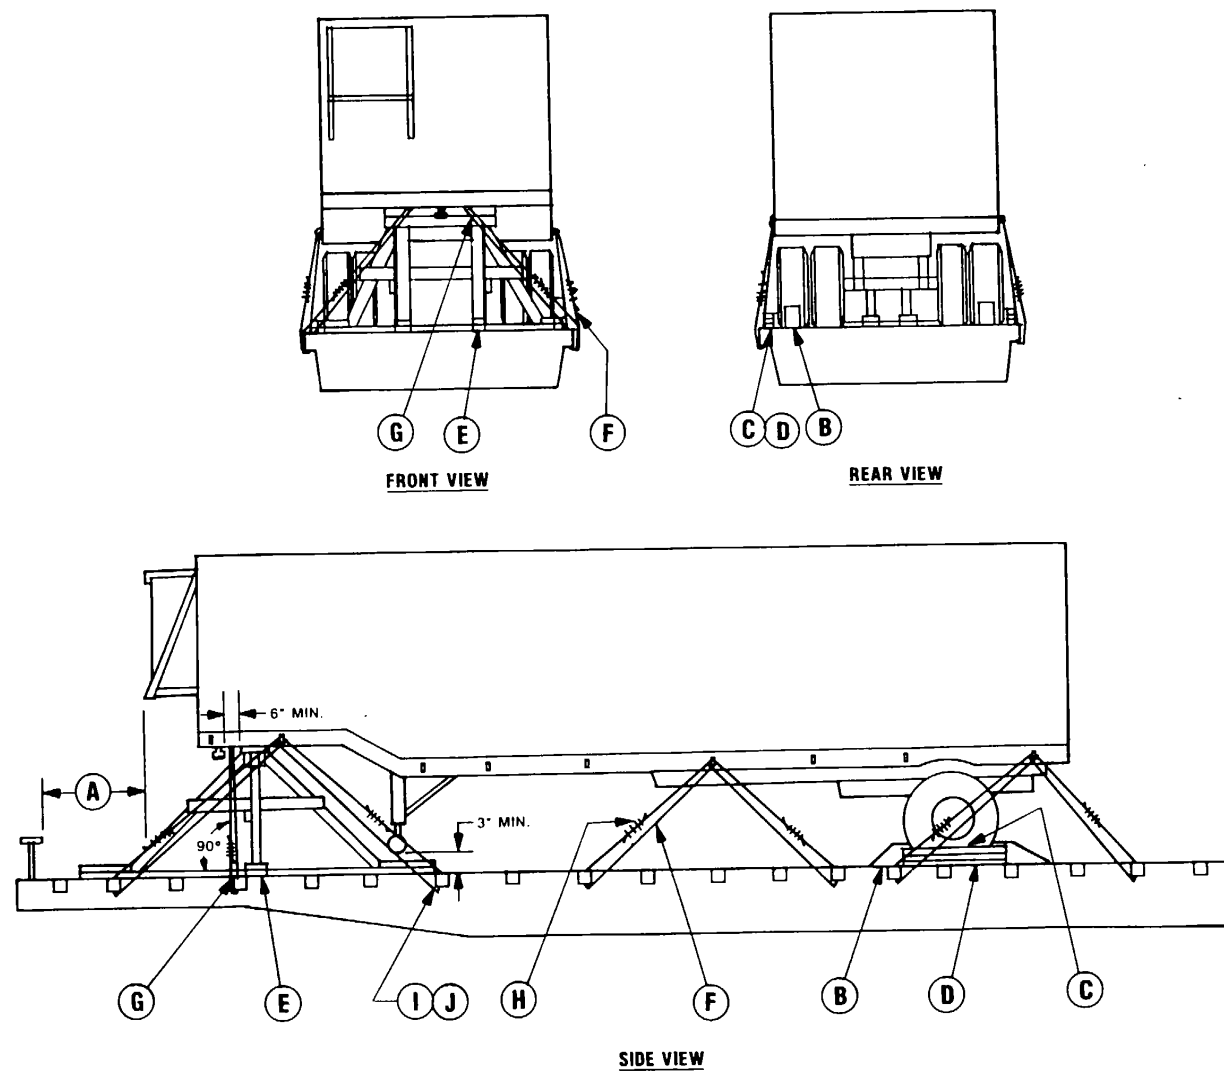

Figure 7-4. Blocking and tiedown of the PATRIOT system van-type semitrailer-mounted components on CONTUS general-purpose flatcars.
d. Figure 7-4 shows the typical loading of the PATRIOT system van-type semitrailer-mounted components on general-purpose flatcars. Figure 75 shows construction of the forward support blocking
Table 7-5. Bill of Materials for Blocking and Tiedown of the PATRIOT System Van-Type Semitrailer-Mounted Components on CONUS General-Purpose Flatcars (Figs 7-4 and 7-5)
Table 7-5. Bill of Materials for Blocking and Tiedown of the PATRIOT System Van-Type Semitrailer-Mounted Components on CONUS General-Purpose Flatcars (Figs 7-4 and 7-5) - Continued